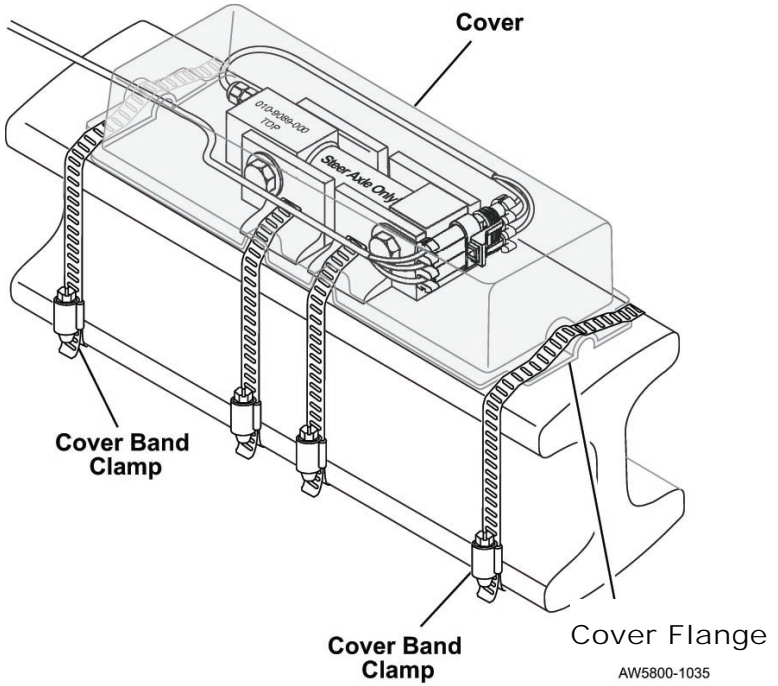

Figure 18. Attaching Band Clamps to Cover
3. Very loosely install band clamps (p/n: 139-0016-000) around the steer axle on both ends of the deflection sensor cover. Ensure that the band clamp on each side circles both the steer axle and the cover flange. See Figure 18.